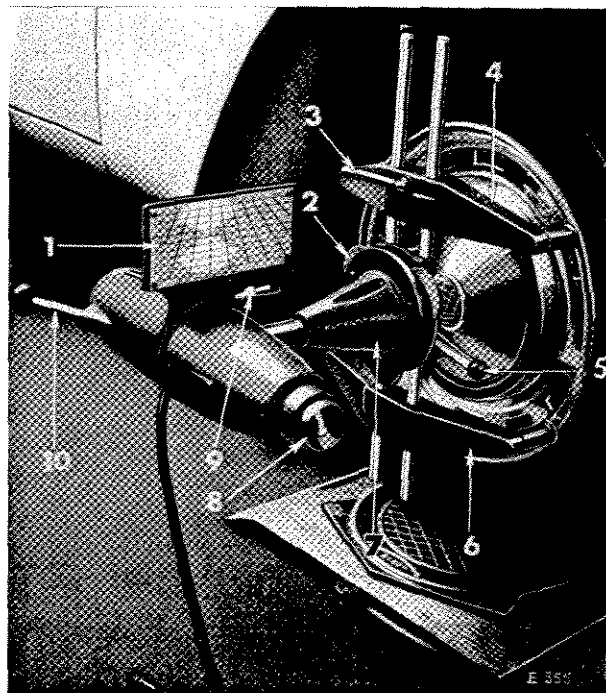

Fig. 28. Projector attachment
To check toe-in condition, aim the light image at the centre of the mirror and, by tilting the mirror up or down, re-direct and focus the image on to the toe-in scale (1), Fig. 28, attached to the top of the projector. Turn the steering to align the light image with the zero line on the scale. In this position the road wheel is at right angles to the mirror.